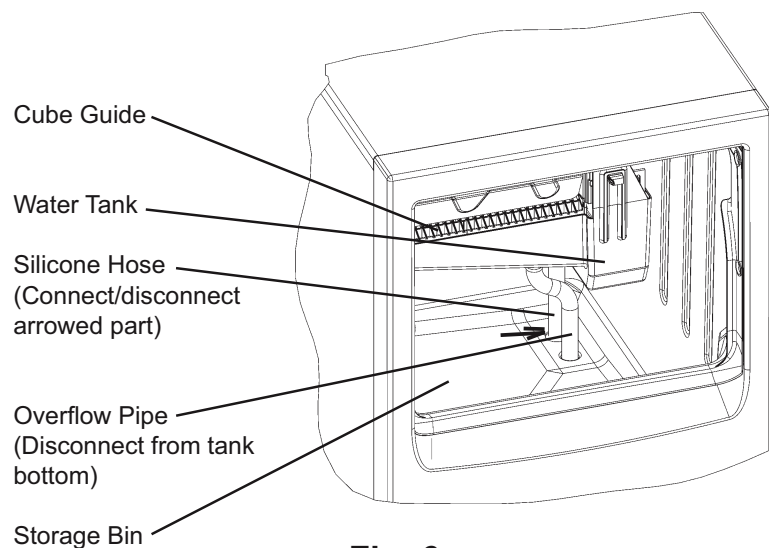

Fig. 6
- 6) Disconnect the Silicone Hose to drain the water. See Fig. 6.
- 4) Disconnect the Silicone Hose to drain the water. See Fig. 6. Reconnect the Silicone Hose back in its correct position after all of the water has drained.
- 3) Open the Door. Disconnect the Silicone Hose to drain the water. See Fig. 6.